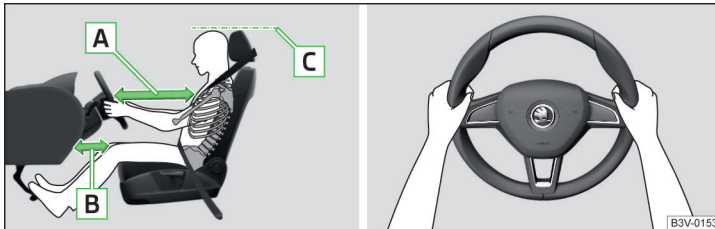

Fig. 2 Correct seated position for the driver/correct steering wheel position
- ✓ For vehicles with driver knee air-bag adjust the driver's seat in a forward/back direction so that there is a gap of at least 10 cm between the legs and the dash panel in the vicinity of the knee airbag - B » Fig. 2.
- ✓ Adjust the steering wheel so that the distance A between the steering wheel and your chest is at least 25 cm » Fig. 2.
- ✓ Adjust the head restraint so that the top edge of the head restraint is at the same level as the upper part of your head C » Fig. 2.
- When driving, hold the steering wheel with both hands firmly on the outer edge in the "9 o'clock" and "3 o'clock" position » Fig. 2. Never hold the steering wheel in the "12 o'clock" position or in any other way (e.g. in the middle, inner edge of the steering wheel or similar). In such cases, you could severely injure the arms, hands and head when the driver airbag is deployed.
- ✓ Adjust the head restraint so that the top edge of the head restraint is at the same level as the upper part of your head **C** » Fig. 2 on page 9.
- ✓ Adjust the head restraint so that the top edge of the head restraint is at the same level as the upper part of the head **C** » Fig. 2 on page 9.